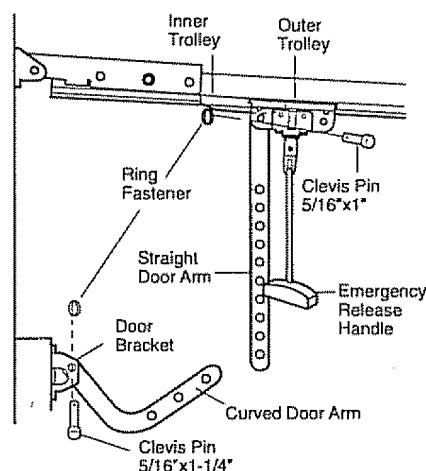

Figure 1
- Mark and drill 5/16" left and right fastening holes. Secure the bracket as shown in Figure 1 if there is vertical reinforcement.
- Make sure garage door is fully closed. Pull the emergency release handle to disconnect the outer trolley from the inner trolley. Slide the outer trolley back (away from the door) about 2" (5 cm) as shown in Figures 1, 2 and 3.
• Figure 1: